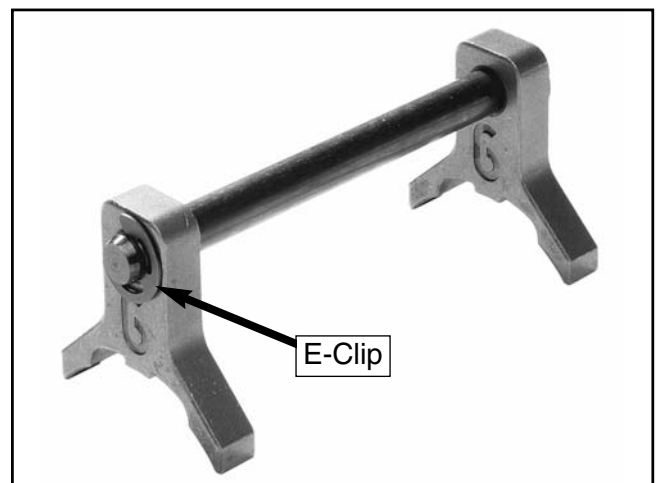

Figure 26. Assembled knife setting gauge.
2. Attach the E-clips to the notches to lock adjustment arms onto the steel rod. The adjustment arms are symmetrical, so the placement is not a concern. See **Figure 26**.